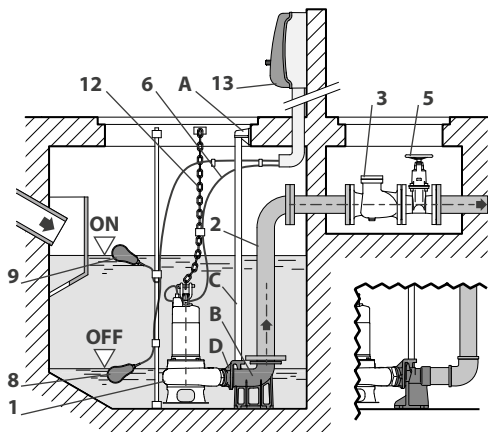

Fig. 9.3
- turn the pump through 180° to drain off the oil into a specific collection tray (Fig. 9.3);